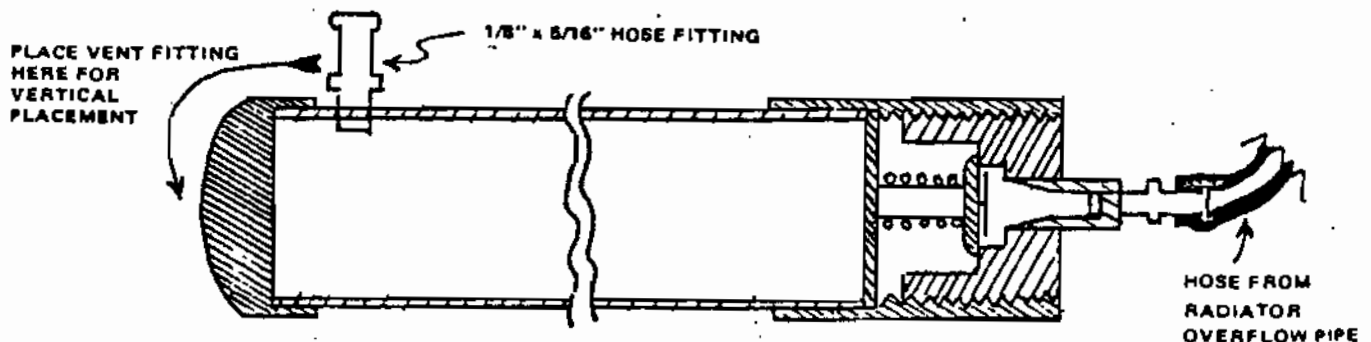

FIGURE 1 - Complete Unit: [Overall 16"; Tube alone 13"]
When you are ready to assemble, take a serious look at Figure 1. Does it make sense to you? If not, permit me to explain verbally. You are keeping your present radiator arrangement. The device is connected to your existing overflow pipe. The coolant enters the tapped pipe plug where the radiator cap keeps everything in place until 7 pounds of pressure is developed, thereby opening the cap and pouring coolant into the reservoir, where it resides and is vented to the atmosphere.
- 2) Drill and tap for brass hose fittings (figure 1). Note: If device is to be mounted vertically, drill and tap vent hole in center of end cap.